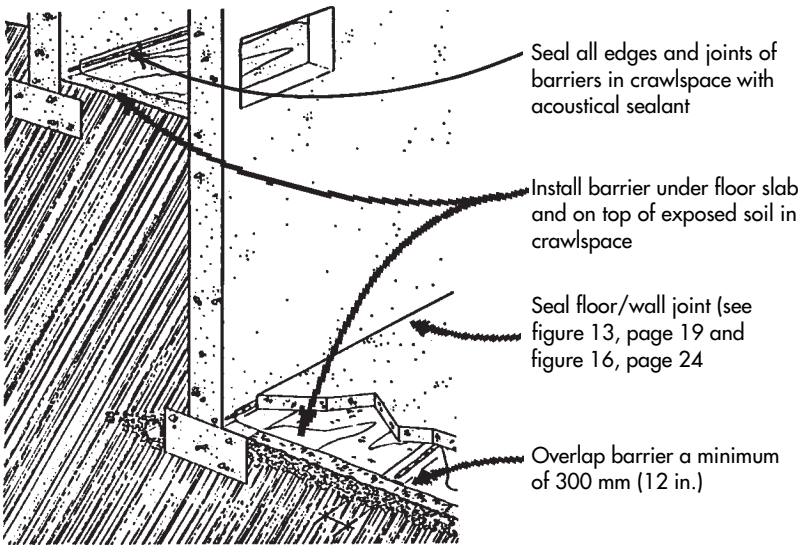

Figure 17: Polyethylene barrier for crawlspaces and basement floor slabs
- **Exposed soil** – Exposed soil in crawlspaces can be covered by a barrier with sealed edges and joints (see **figure 17, page 25**). If there are major gaps in the basement floor slab (e.g. cold storage room), concrete should be poured to cover any exposed soil.
- Install a barrier of at least 0.15 mm (6 mil) polyethylene under the basement floor slab or on top of exposed soil in crawl-spaces (see **figure 17, page 25**). Joints in the polyethylene should be overlapped no less than 300 mm (12 in.). In crawl-spaces, seal the joints and edges with acoustical sealant. Look for products which are more a more durable alternative to regular polyethylene such as cross-laminated polyethylene.